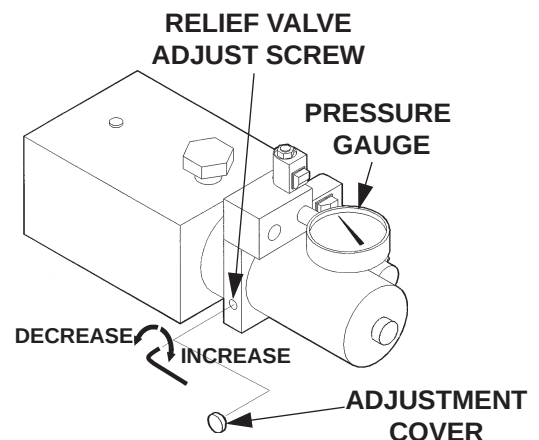

FIG. 51-2
3. With Platform on the ground, remove the pressure hose and fitting from the Pump and replace it with a 0-3000 PSI Pressure Gauge. Hold the switch in the "UP" position. Adjust the Relief Valve on the side of the Pump until the gauge shows 2200 PSI (**FIG. 51-2**). Remove gauge and reinstall pressure hose.